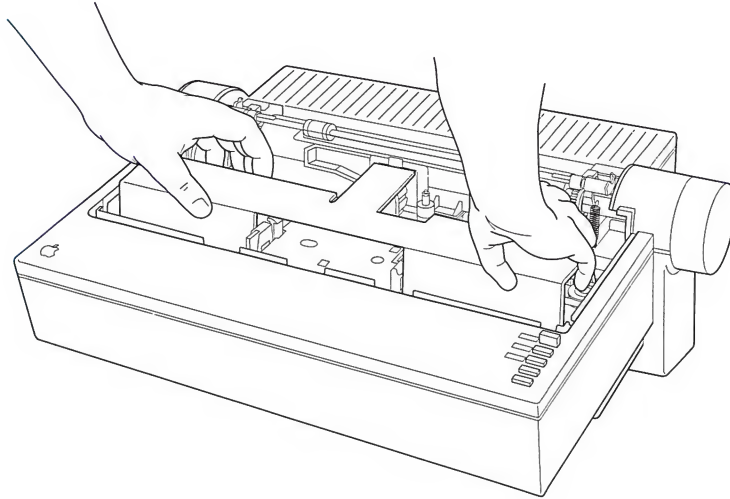

Figure 2-3 Removing the cardboard retainer
5. Remove the cardboard retainer. (See Figure 2-3.)